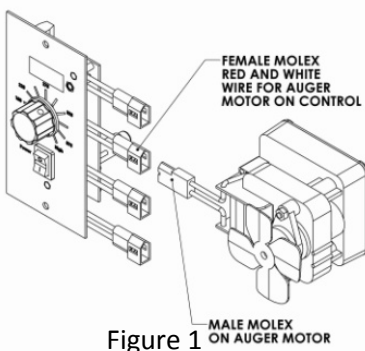

Figure 1
3. Unplug the plastic Molex connector located on the end of the auger motor from the connector on the controller with the red and white wires. See Figure 1.